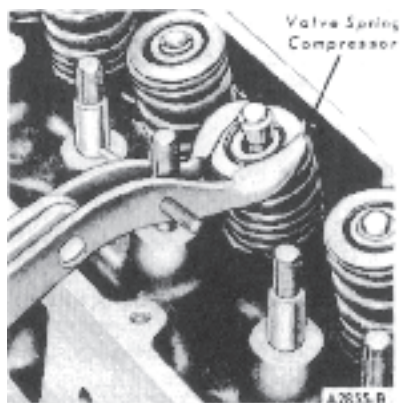

Fig. 43 Compressing Valve Spring
4. Compress the valve springs (Fig. 43). Remove the spring retainer locks and release the spring.